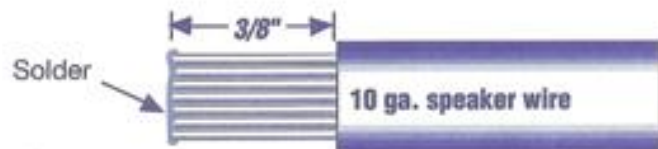

Figure 6 - Wire Stripping
- After stripping the wires approximately  $\frac{3}{8}$  of an inch tin the very tip of each of the wires (See Figure 6). **This is VERY IMPORTANT!** If you tin the entire wire, it is possible to have a poor connection. This connection will result in high resistance; causing excessive heat which could **MELT** the connector and void the "limited" warranty.